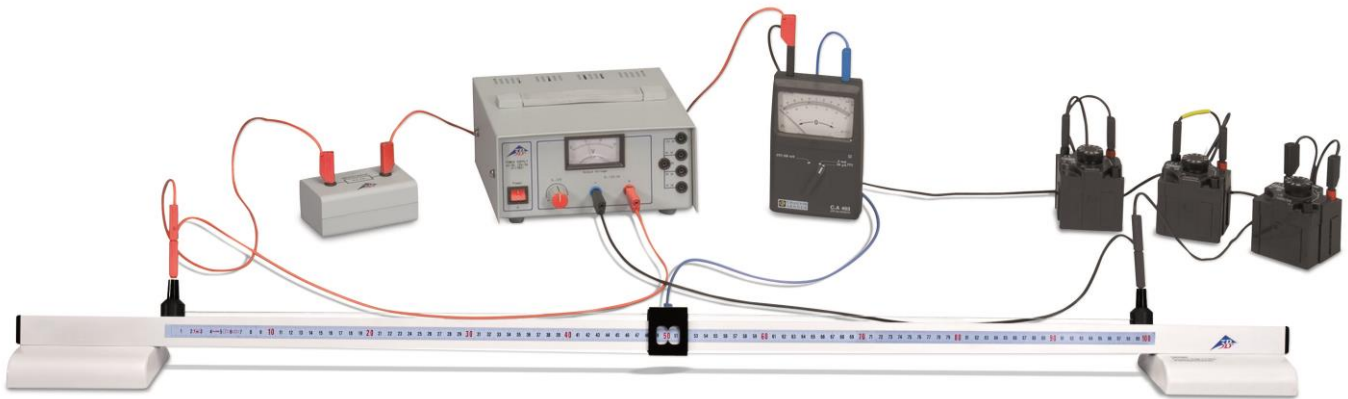

Fig. 1: Experiment set-up.
- Set up the experiment as shown in Fig. 1. Connect the black terminal on the right of the measuring bridge via one wire to the negative of the power supply and by another to the “COM” socket of the zero point galvanometer via the resistor decades connected in series. The red terminal on the left of the bridge should be connected via one wire to the positive terminal of the power supply and by another to the “COM” socket of the zero point galvanometer via precision resistors of value 100 Ω or 1 kΩ. The positive socket “+” of the zero point galvanometer should be connected to the sliding contact on the measuring bridge. Do not turn on the power supply yet.